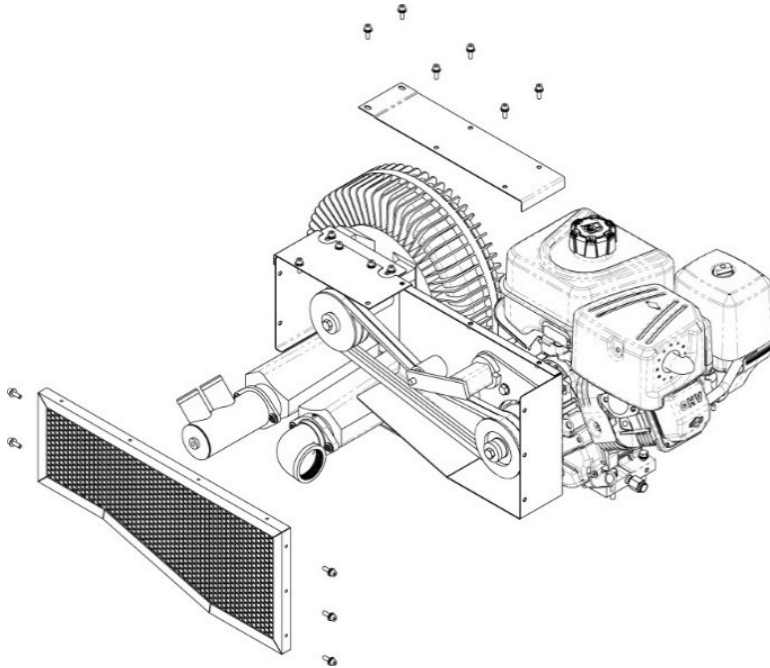

Fig. 7 – Removal of Belt Guards
3. Apply firm finger pressure (approx. 1 kg) to the centre of the lower part of each belt. Each should deflect by about 15 mm and the deflections both belts should be equal. See Fig. 7.